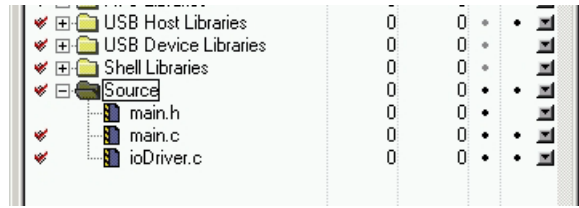

Figure 3. Adding ioDriver.c File to Project Directory Structure
3. In the project directory structure, search for the ‘Source’ folder. Right click and select “Add Files” and add the ‘ioDriver.c.’ When prompted with a pop up for “Add files to targets,” use the default of all targets and click OK. After adding the file, the directory structure must look like Figure 3.